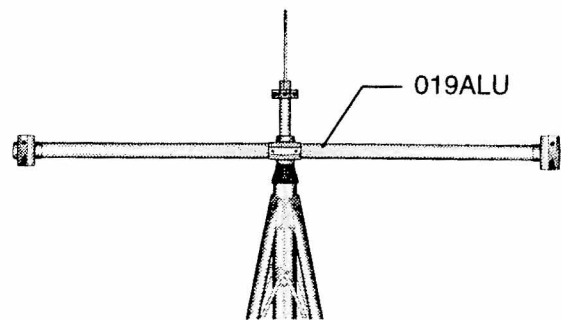

FIGURE 4-2. 019ALU Crossarm and Lightning Rod
Attach the 019ALU crossarm to the mast as shown in Figure 4-2.
3. Install the lightning rod to the mast as shown in Figure 4-2. Loosen the two screws on the lightning rod mounting bracket. Position the mounting bracket 2" down from the top of the mast and tighten both screws evenly. Make sure the lightning rod set screw is tight.